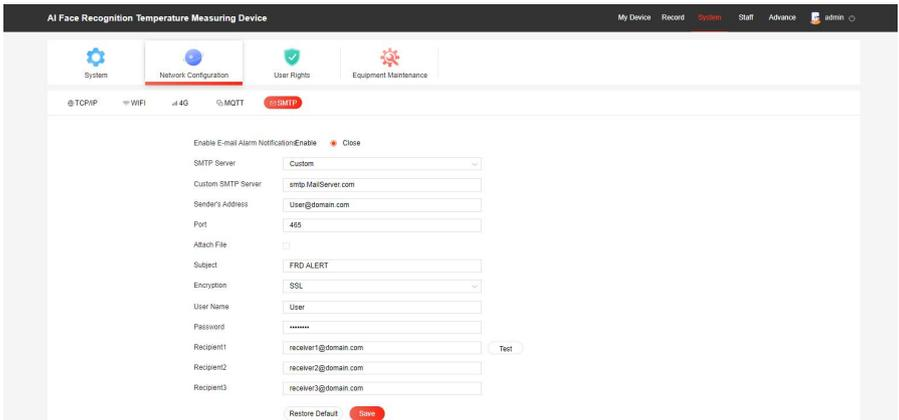

Figure 7-16
Step 1: After logging in to the web page, click "Configuration → Network → Advance Setup → SMTP Configuration" to enter the SMTP setting interface, as shown in Figure 7-16 below.